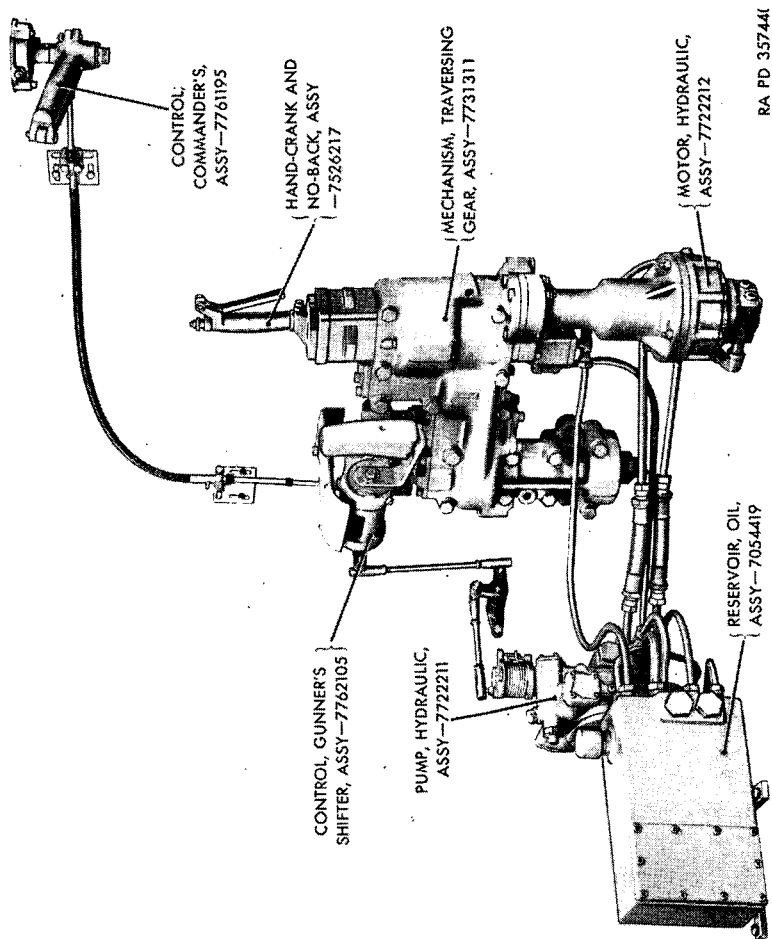

Figure 1. Hydraulic turret traversing mechanism.
### **4. Description** (fig. 1)
b. PRINCIPAL COMPONENTS (figs. 1, through 10). The hydraulic turret traversing system is comprised of a two-way variable-delivery hydraulic pump, a constant-displacement hydraulic motor, a traversing gear mechanism, an oil reservoir, gunner's manual and power traversing controls, a crew commander's power traversing control, and the necessary tubing, hose, and fittings. An electric motor drives the hydraulic pump counterclockwise at a constant speed, when viewed from pump drive shaft end. The hydraulic pump is bolted to the electric motor. The electric motor and oil reservoir are mounted to a common bracket inside the turret basket. The constant-displacement hydraulic motor is bolted to the traversing gear mechanism. The turret drive pinion on the traversing gear mechanism engages the turret ring gear. The volume of oil delivered by the hydraulic pump is variable from zero to maximum in either direction and flows directly to and from the hydraulic motor. The hydraulic motor drives the gear train in the traversing gear mechanism which, in turn, rotates the turret. A no-back mechanism automatically holds turret in position when hydraulic motor stops, and prevents turret drift when tank is not in horizontal position. A spring-loaded, hydraulically actuated pistol locks power driven gear when hydraulic pump is not operating.